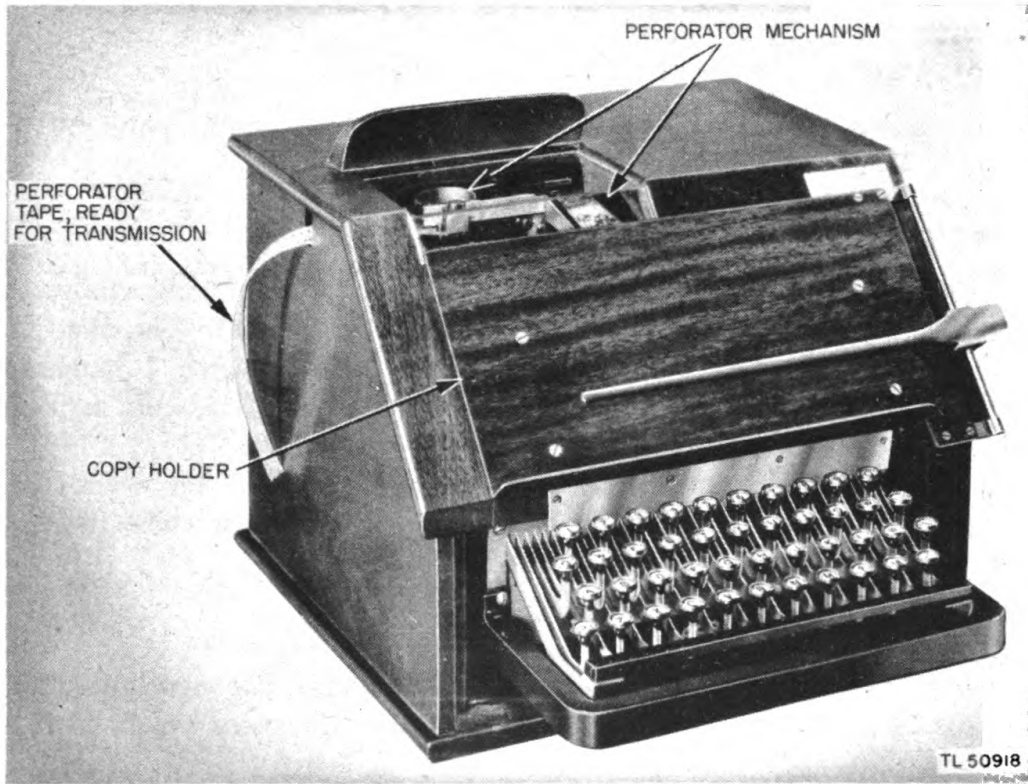

Figure 5. Keyboard perforator.
a. Keyboard Perforator. Figure 5 shows a typical keyboard perforator. This type is used in much the same way as a typewriter or teletype machine. When a key is depressed, the tape is perforated with the International Morse combination for that letter. A knowledge of the code is, therefore, unnecessary. A keyboard perforator is normally set up for use with the English language and alphabet, but may be used to perforate tapes with combinations assigned to the characters or letters found in other languages.